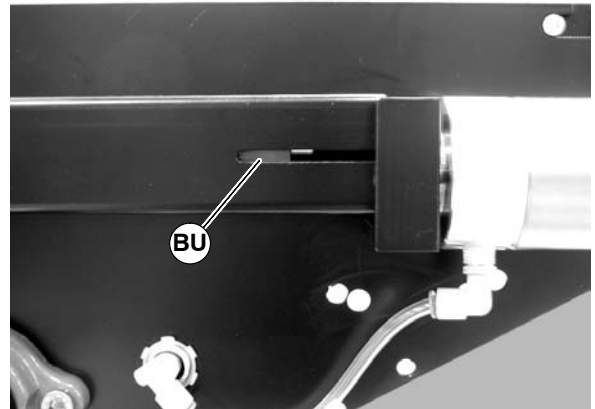

Figure 44
3. If proper belt tension cannot be achieved before the out of tension indicator (BU of Figure 44) begins to turn red, the belt must be replaced.